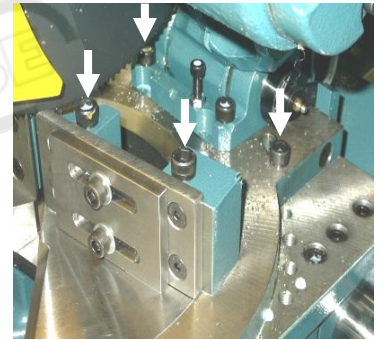

Figure 11. Angular Adjustment Bolts
- iii) To adjust the angle of the cutting surface, if necessary, loosen the 4 bolts, as shown in Figure 11. Fine-tune the angle required, then replace and re-tighten the 4 bolts.